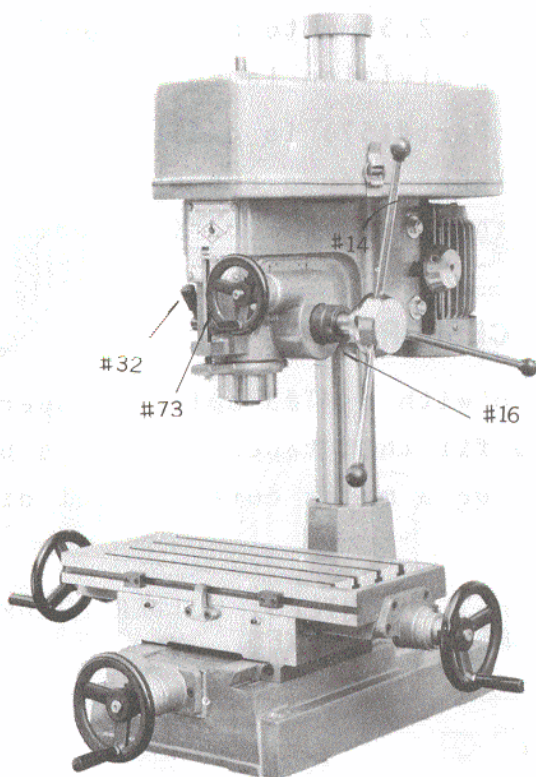

FIG. 7
- E. Place the belts on the desired pulley steps as shown in Fig. 7